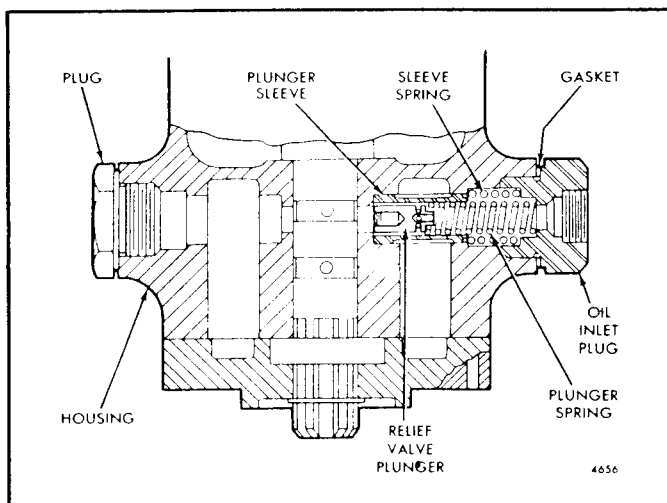

Fig. 14 - Location of Oil Relief Valve Plunger, Plunger Sleeve, Springs, Oil Inlet Plug and Dummy Plug in Governor Housing (R.H. Governor Shown)
8. Refer to Fig. 14 and install the relief valve plunger, plunger sleeve, plunger retaining spring, sleeve retaining spring, oil inlet plug and dummy plug in the governor housing as follows: